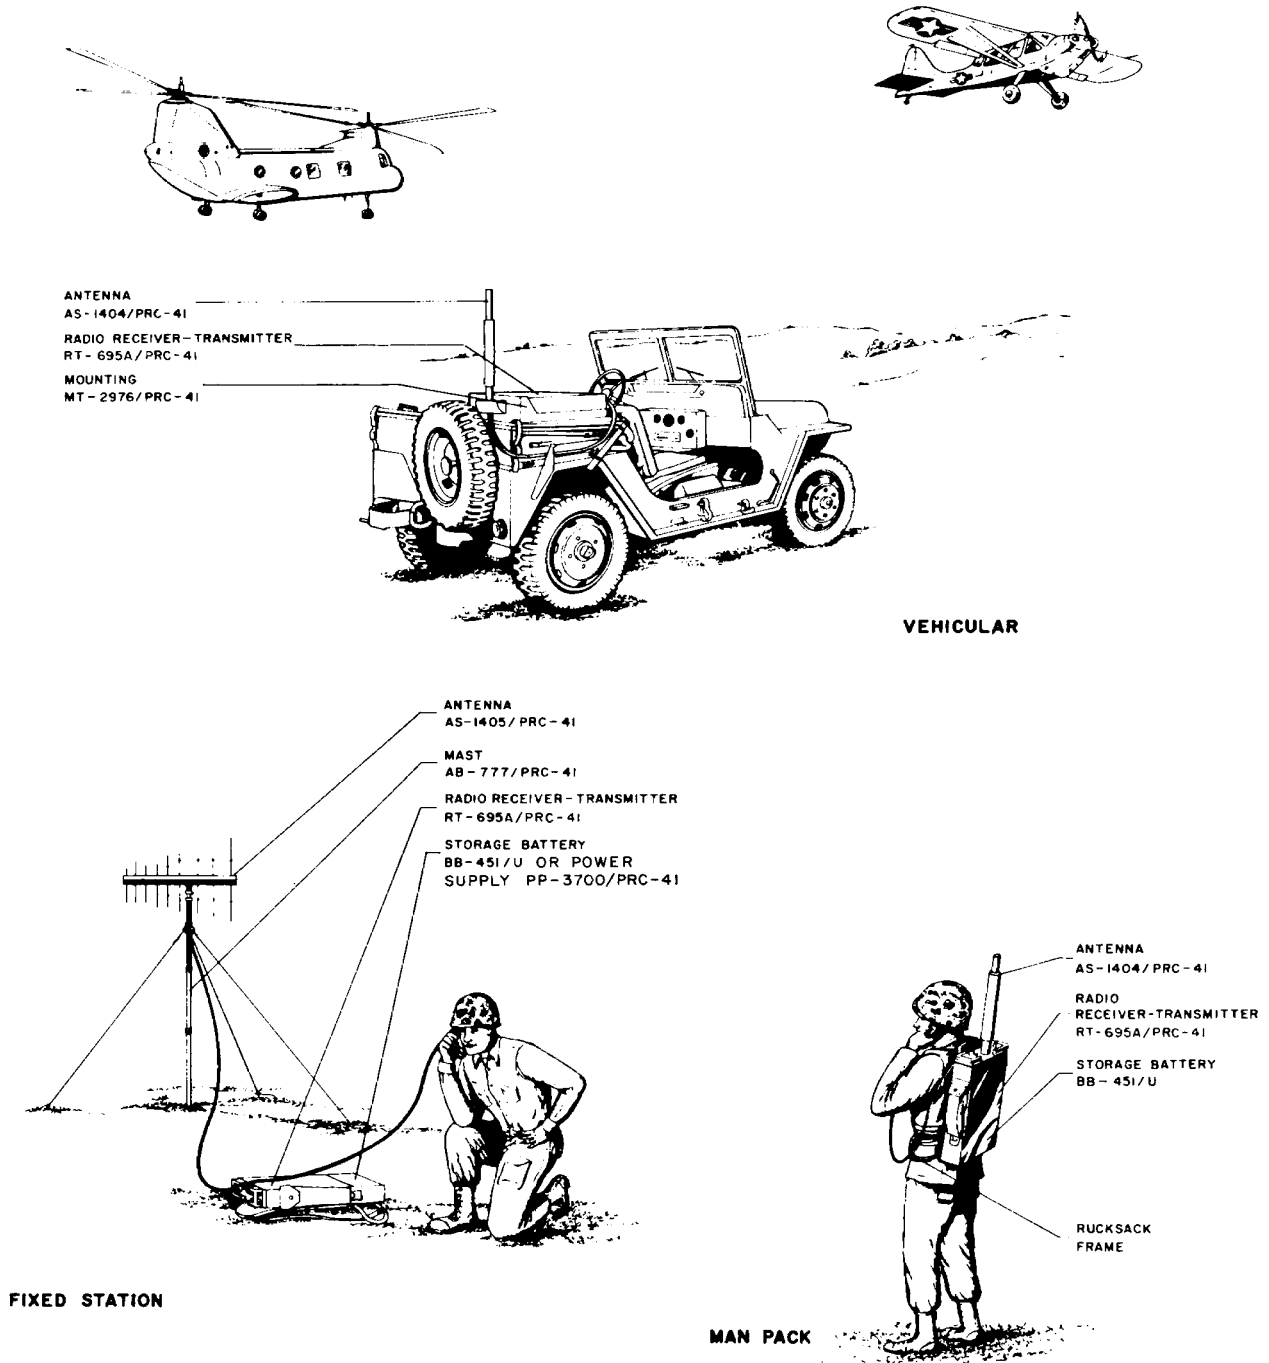
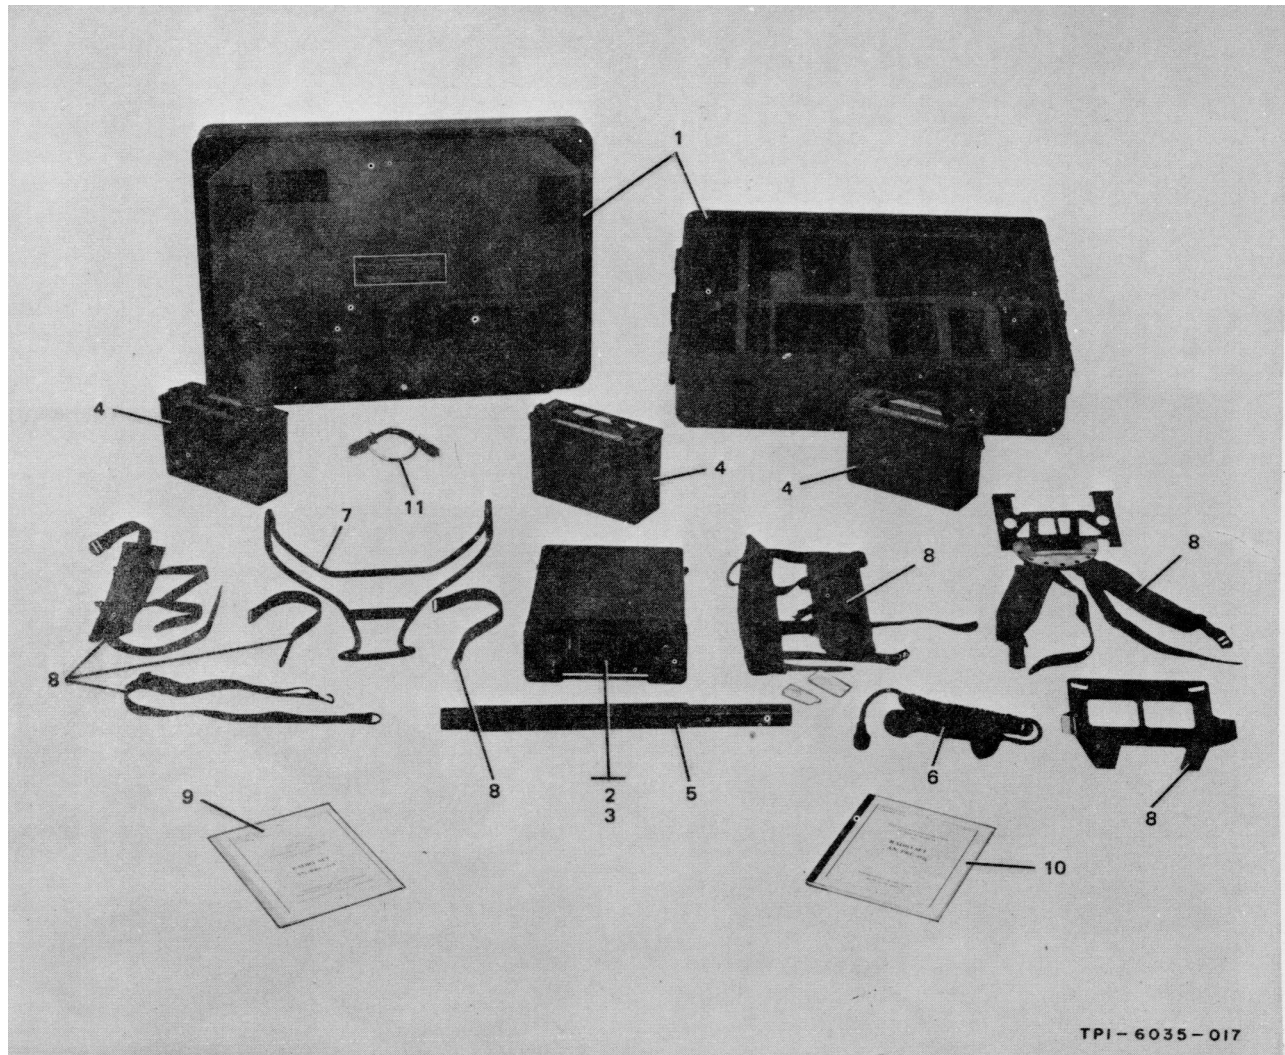
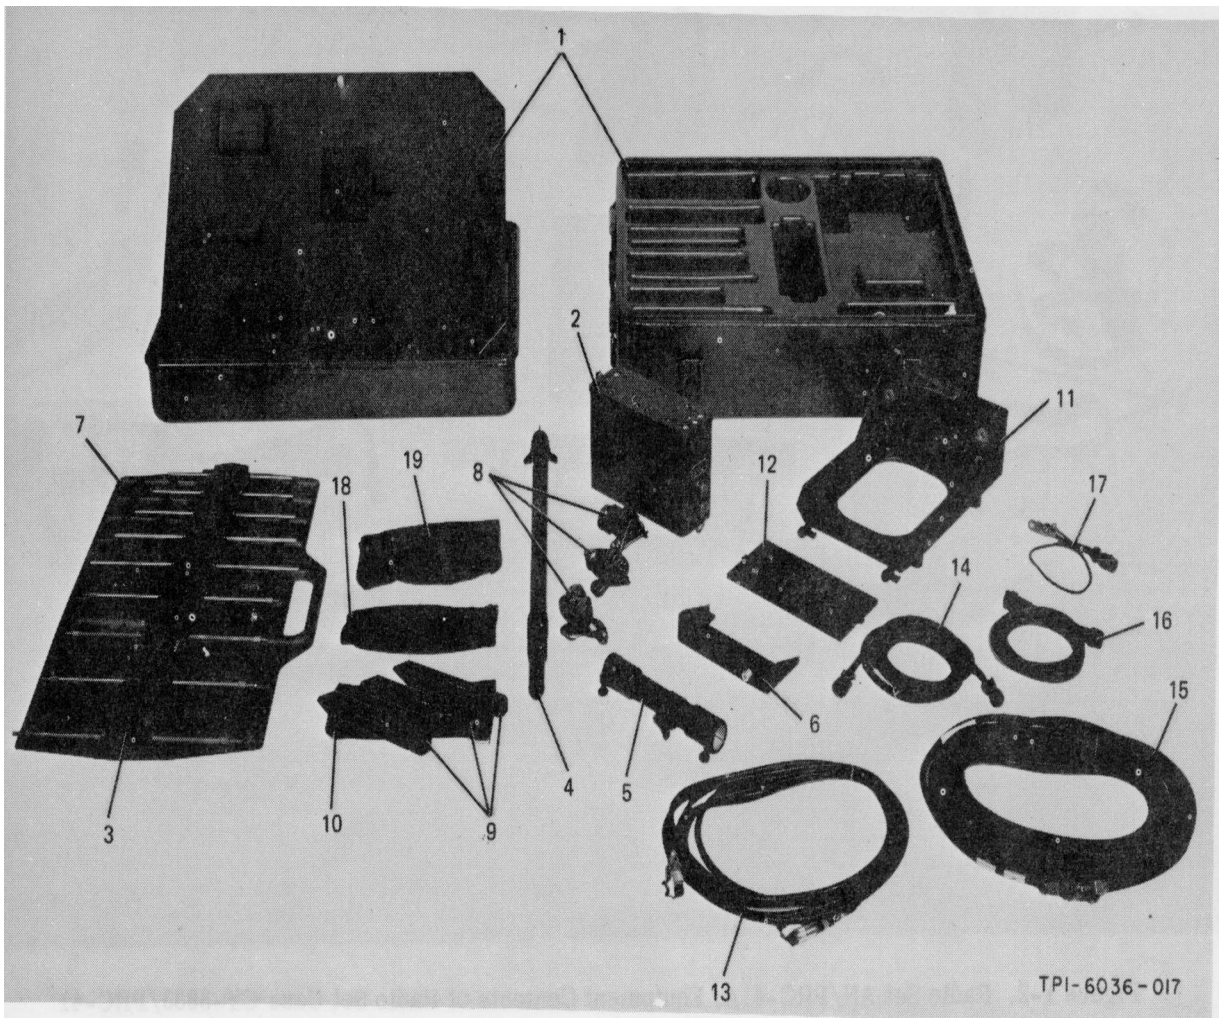

Figure 1-1. Radio Set AN/PRC-41A, Operating Configuration
Figure 1-2. Radio Set AN/PRC-41A, Equipment Contents of Radio Set Case CY-3883/PRC-41
Figure 1-3. Radio Set Accessory Kit MK-706/PRC-41, Accessory Contents of Electronic Equipment Case CY-3885/PRC-41
Radio Set AN/PRC-41A consists of the equipment contained in Radio Set Case CY-3883/PRC-41. Refer to table 1-1 and figure 1-2. Radio Set Accessory Kit MK-706/PRC-41 consists of the equipment contained in Electronic Equipment Case CY-3885/PRC-41. Refer to table 1-2 and figures 1-1 and 1-3.
Radio Set AN/PRC-41A is a lightweight, portable uhf receiver-transmitter equipment. The versatility of this equipment permits man-pack, fixed station, or vehicular operation. See figure 1-1. The items and accessories of AN/PRC-41A and Accessory Kit MK-706/PRC-41A are listed in tables 1-1 and 1-2. This equipment is stored for transit in Radio Set Case CY-3883/PRC-41 and Electronic Equipment Case CY-3885/PRC-41. See figures 1-2 and 1-3. CY-3883/PRC-41 contains the items necessary for man-pack operation. CY-3885/PRC-41 contains the accessory items required for fixed station or vehicular operation, and maintenance items such as tools and extension cables. Radio Receiver-Transmitter RT-695A/PRC-41 of AN/PRC-41A may be operated on any one of 1750 channels, spaced 100kHz in the 225.0-to 399.9-MHz range. In transmit operation, the equipment uses type a3 (AM voice) emission and provides an average of at least 3 watts of power across the frequency range. All controls are an integral part of the front panel of RT-695A/PRC-41. These controls provide frequency selection, application of power, and adjustment of volume and squelch levels. Automatic relay operation in normal voice mode may be provided when two RT-695A/PRC-41 equipments are operated together. Cabling is provided for all modes of operational installations. RT-695A/PRC-41 has the capability of secure voice operation when used in conjunction with TSEC/KY-38 equipment. Primary power may be provided by either Storage Battery BB-451/U, Power Supply PP -3700/PRC -41, or vehicular battery supply. The equipment may use Antenna AS-1405/PRC-41 (directional) or Antenna AS-1404/ PRC-41 (omnidirectional).
**a. GENERAL.** - Radio Set AN/PRC-41A consists of Radio Set Case CY-3883/PRC-41 and its contents. Refer to figure 1-2. Radio Set Accessory Kit MK-706/PRC -41 consists of Electronic Equipment Case CY-3885/PRC-41 and its contents. Refer to figure 1-3. The following paragraphs provide physical, electrical, and functional descriptions of the case and contents of Radio Set Case CY-3885/PRC-41 and Electronic Equipment Case CY-3885/PRC-41.
(1) RADIO SET CASE CY-3883/PRC-41. Radio Set Case CY-3883/PRC-41 is an aluminum transit case with a foam rubber compartmentalized insert used for storage of the items of AN/PRC-41A
that are required for man-pack operation. It measures 15-1/2 by 35 by 26-1/2 inches and weighs 45 pounds. Refer to figure 1-2.
(8) SPECIAL PURPOSE ELECTRICAL CABLE ASSEMBLY CX-10831/PRC-41A. (Refer to figure 1-3.) - The CX-10831/PRC-41A is a 2-footlength of 7-conductor cable with suitable mating connectors. It is used to connect RT-695A/PRC-41 to the TSEC/ KY-38 security equipment.
Case CY-3885/PRC-41 is a compartmentalized aluminum transit case used for storage of accessories of Radio Set AN/PRC-41A. The contents of CY-3885/PRC-41 permit operation of the AN/PRC-41A equipment in a fixed station or vehicular configuration, and provide extension cables and tools required for equipment maintenance. The case measures 15-1/2 by 35 by 26 1/2 inches and weighs 45 pounds. Refer to figure 1-3.